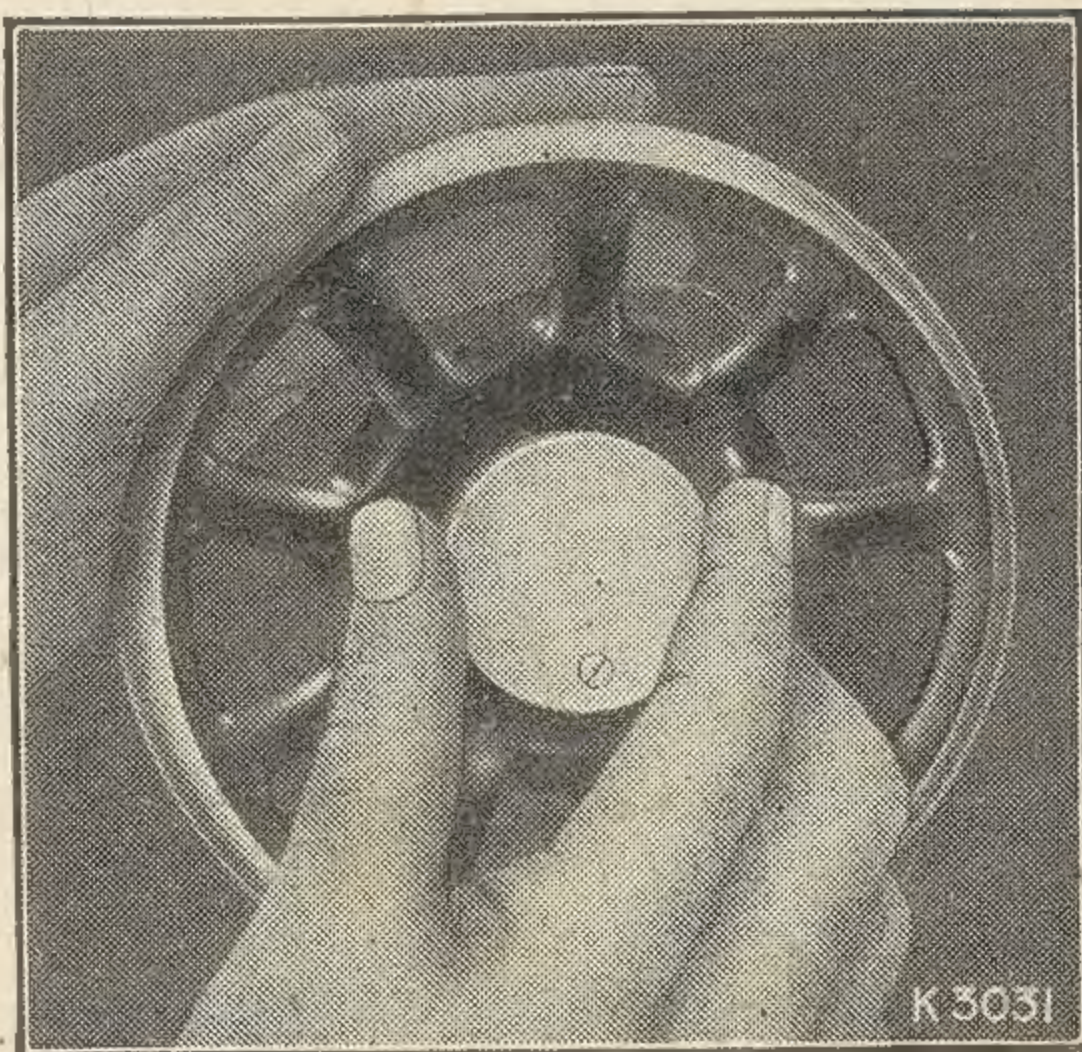
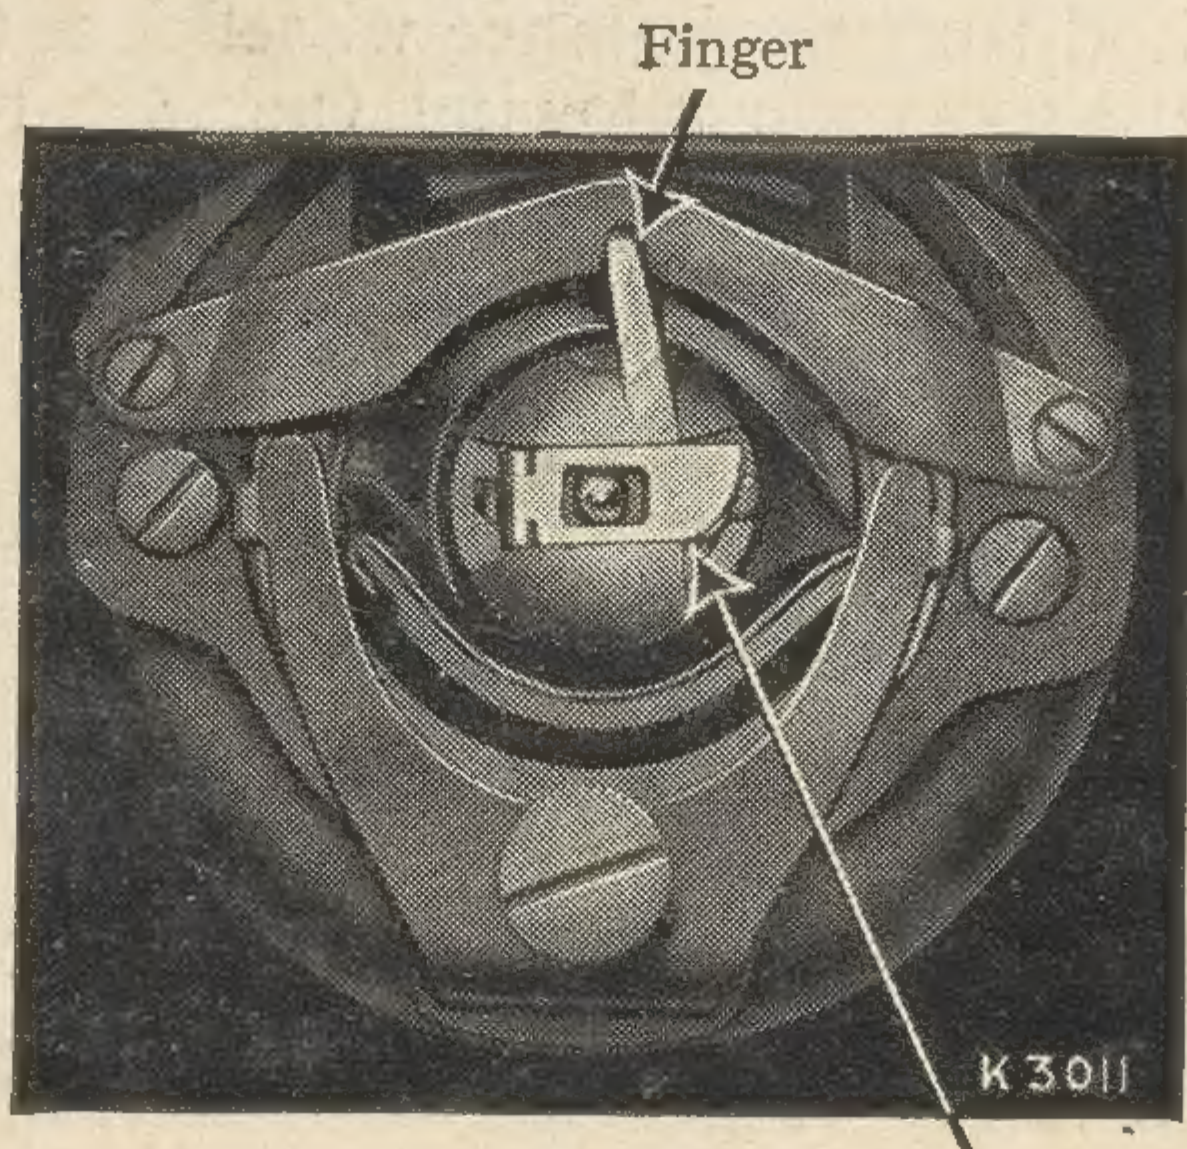
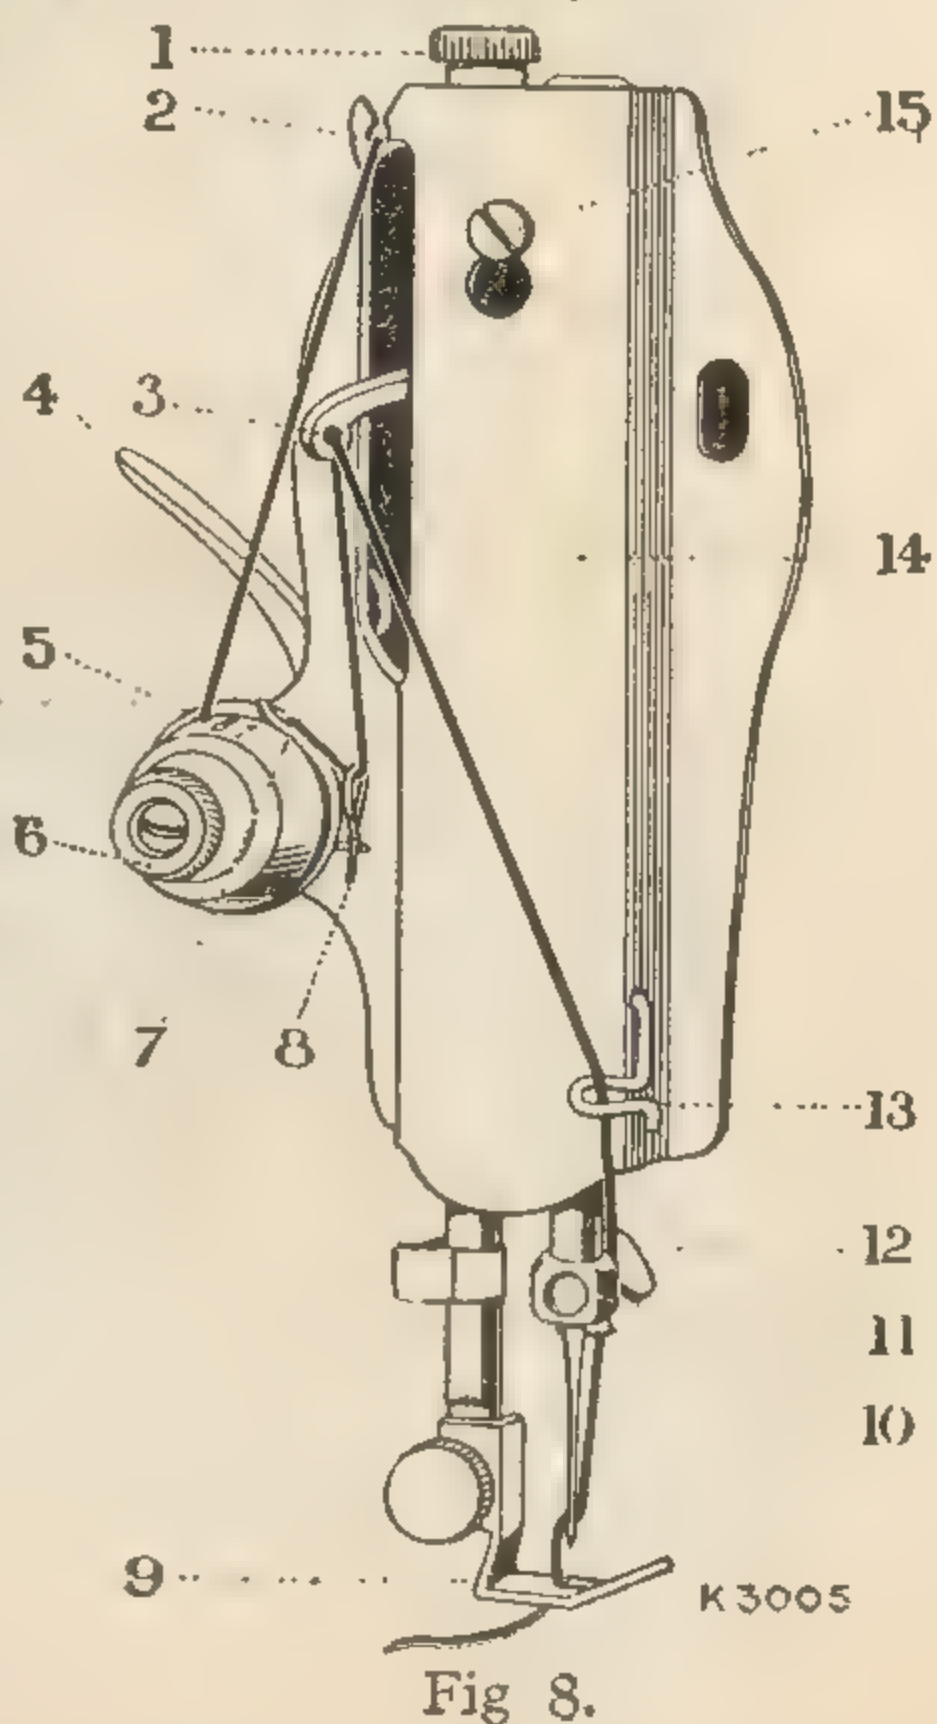
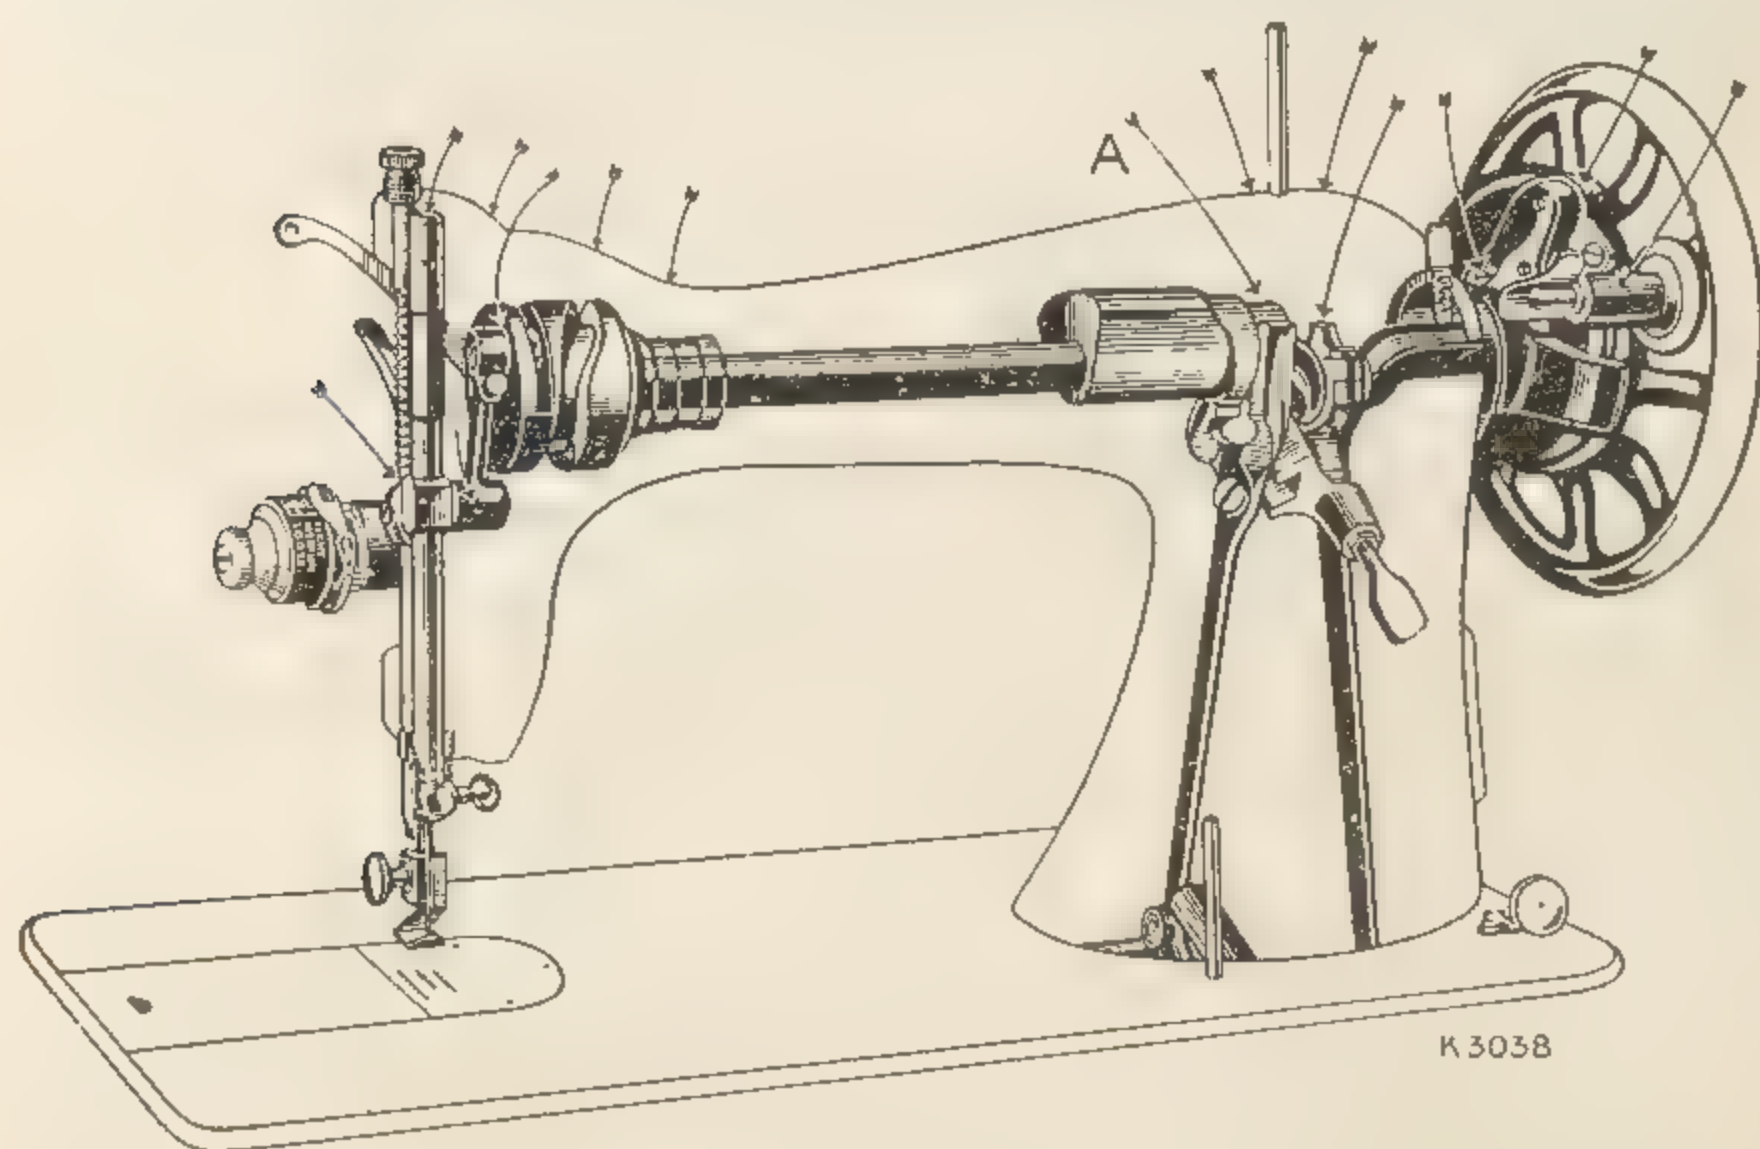

Fig. 1.
Fig. 2. Latch
Fig. 8.
Fig. 12.
This device allows the balance wheel to run free, so that bobbins may be wound and the correct method of treadling acquired, without operating the stitching mechanism. To loosen the wheel, hold it with the left hand, and with the right hand turn the stop motion screw over towards you, as shown in Fig. 1.
When familiar with the working movement, tighten the balance wheel, by turning the stop motion screw over from you, and place a piece of material under the presser foot (9, Fig. 8). Lower the latter by means of the lifter (4, Fig. 8) and again work the machine, without its being threaded, until you are accustomed to guiding the material.
Tighten the balance wheel (see Fig. 1) and place a piece of material under the presser foot (9, Fig. 8). Then lower the latter by means of the lifter (4, Fig. 8). Now **turn the handle over from you** to work the machine, without its being threaded, until you are accustomed to guiding the material with the left hand.
Turn the balance wheel towards you until the take-up lever (3, Fig. 8) is at its highest point. Draw open the slide in the bed of the machine and, with the thumb and forefinger of the left hand, open the latch (see Fig. 2) and withdraw the bobbin case.
Loosen the balance wheel (see Fig. 1) and place a reel of thread on the pin (1). Place an empty bobbin on the spindle (3) and turn the former until the slot in its right side engages the pin in the spindle shoulder. Draw the thread under and between the tension discs (2) and pass it, from the inside, through one of the holes in the left side of the bobbin and hold the end of thread. Now press down on the winder and the latch (4) will drop and retain the pulley (6) against the ledge of the balance wheel. Turn the latter over towards you until a few coils are wound and then break off the end of thread. Operate the machine until the bobbin is full, when the winder will stop automatically.
After threading the bobbin case hold its latch between the thumb and forefinger of the left hand and, with its position finger opposite the notch at the top of the shuttle race (see Fig. 2), replace it on the centre stud of the shuttle. Then release the latch and press the bobbin case back until the latch catches the groove near the end of the stud. Allow the end of the thread to hang free, and close the slide in the machine bed.
Upper Threading (See Fig. 8)
Raise the take-up lever (3, Fig. 8) to its highest and lift the presser foot (9, Fig. 8). Move the material back and to the left and sever the threads by passing them over the thread cutter above the presser foot. Leave the ends of the threads a few inches long under and at the back of the presser foot.
For ordinary family sewing it is seldom necessary to change the pressure on the material. If sewing fine silk or flimsy material, lighten the pressure by giving the thumb screw (1, Fig. 8) two or three turns upwards. To increase the pressure, give the thumb screw a few turns downwards.
A drop of oil applied at the points indicated by arrows in Figs. 12 and 13 is sufficient. To oil the needle bar mechanism, remove the face plate (14, Fig. 8) by loosening the screw (15, Fig. 8) and
slipping the plate up over it. **It is most important that oil should be applied to point "A" Fig. 12 when the needle bar is at its lowest.** When oiling, insert the oil can spout well into the oil holes. A drop of oil should also be applied to the shuttle race.
The thread take-up spring (8, Fig. 8) is not broken.
Stitches Looping. See that the spring (8, Fig. 8) is not broken, that the upper and under tensions are equal (see page 10), that both bobbin case and needle are properly threaded, that the thread is of good quality and of correct size for the needle (see table on inside of back cover).